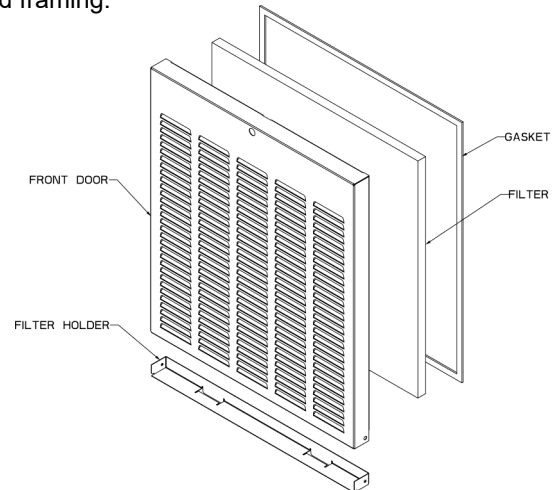

FIGURE 2: FRONT DOOR ASSEMBLY OF MHCDS23 / MHCDS30 / MHCDS40 / MHCDO23 / MHCDO30
3. Place the top panel in the floor up-side down, place the left side panel against the top panel and install the three (3) screws.
4. Place the right side panel against the top panel and install the three (3) screws.
5. Turn the coil cabinet assembly upside down, place the rear panel against it and install the seven (7) screws.
10. Prepare the coil cabinet door assembly. Refer Figure 2.
12. Prepare the coil cabinet door assembly. Refer Figure 2.